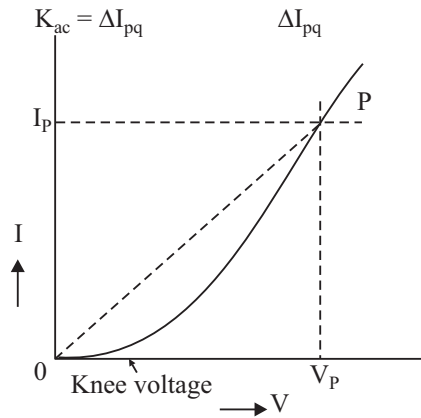

Fig. 26.3 : R_{dc} at $P = V_p/I_p$, which is the slope of line OP . It will have different values for different positions of P .
In this experiment we have to study, how the current varies with the applied voltage. Here, we shall see that the current remains zero till the applied voltage approaches contact PD called the ‘knee’ voltage. On increasing the applied voltage beyond this point, the current flowing through the diode increases rapidly. A graph plotted between ‘V and I’ is not a straight line as is seen in Fig. 26.3. It is called the characteristics of the diode. In such cases where the (V vs I) graph is not a straight line, we define two resistances. The static resistance or DC resistance and dynamic resistance or AC resistance. If we take a point P on the curve and note the applied voltage V_p and current I_p corresponding to this point, then the static resistance or R_{dc} at point P is defined as
- (vi) Now plot a graph from these readings, which will look like the one given in Fig. 26.3.